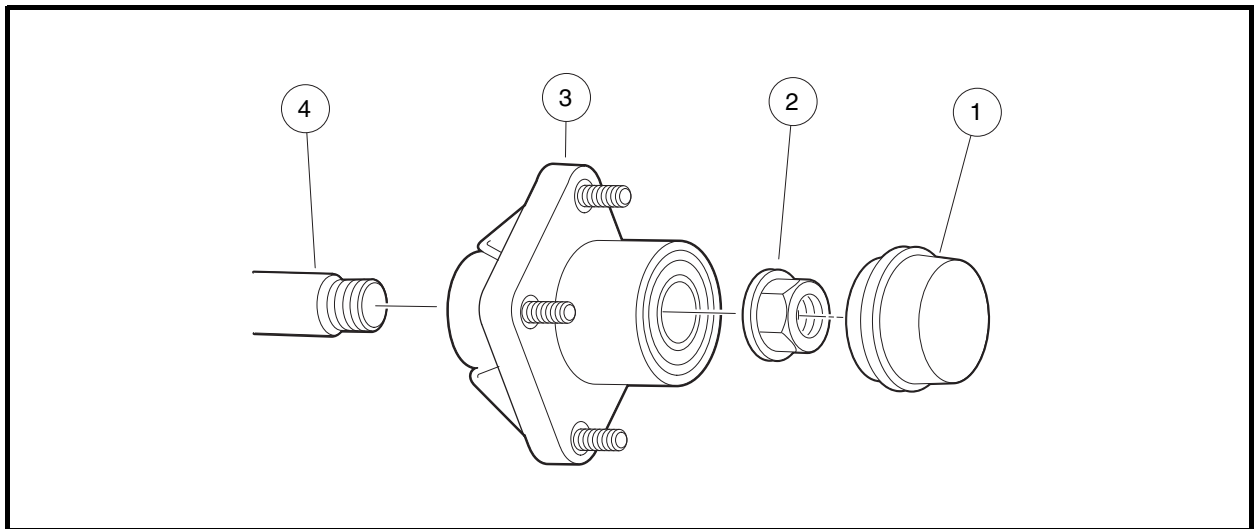

Figure 7-25 Front Wheel Hub - DS Villager 4 Vehicles
2. Remove dust cap (1) and lock nut (2) (**Figure 7-25, Page 7-26**).
3. Slide the hub assembly (3) off of the spindle shaft (4).
2. Slide the hub assembly (3) onto the spindle shaft (**Figure 7-25, Page 7-26**).
5. Install the dust cap (1) using a rubber mallet and tapping lightly around the edge of the cap.